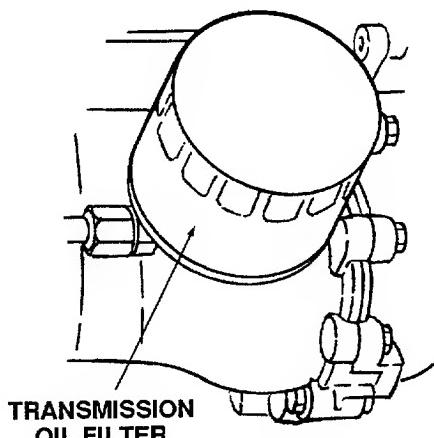

Figure 25
- Clean around the base of the transmission oil filter and remove the filter by turning it counterclockwise (Refer to Figure 25).